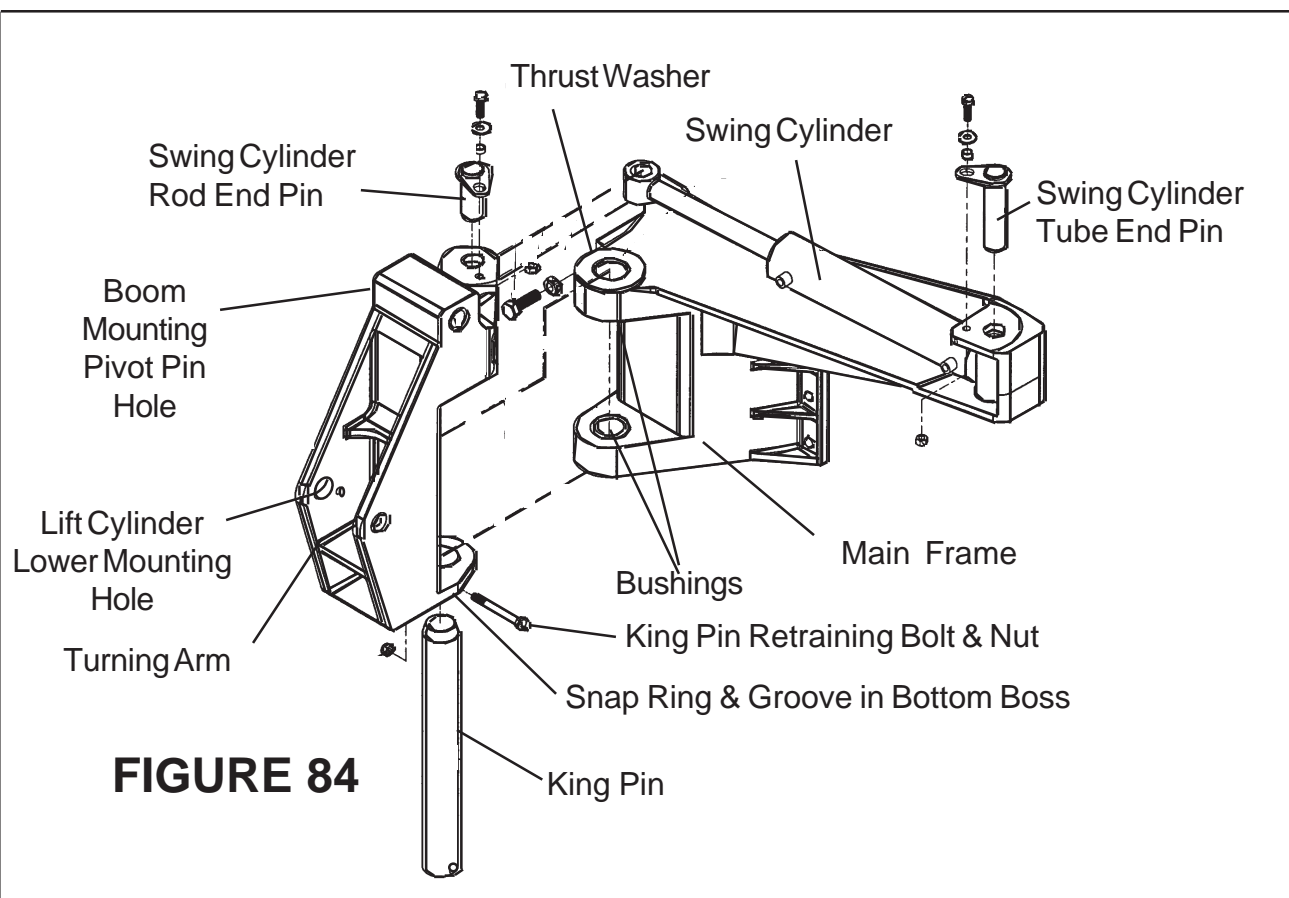

**FIGURE 83**
22. Kingpin Bushing Replacement, The New Bushing will need to be driven in, this must be done with a suitable Bushing Driver (Alamo Industrial Bushing Driver # 02972281) shown in Figure 82. Care must be taken when doing this to avoid damage to the Bushings and Bosses that Bushings are in. The Bushings should be installed so that the Top Bushing is Flush with the Bottom of the Frame Bore and The Bottom Bushing is Flush with the Top of the frame Bore as Shown in Figure 83. Note: some people use an adhesive (Loctite) on exterior of Bushing, this will not harm anything, but if used bushing must be installed before it dries.